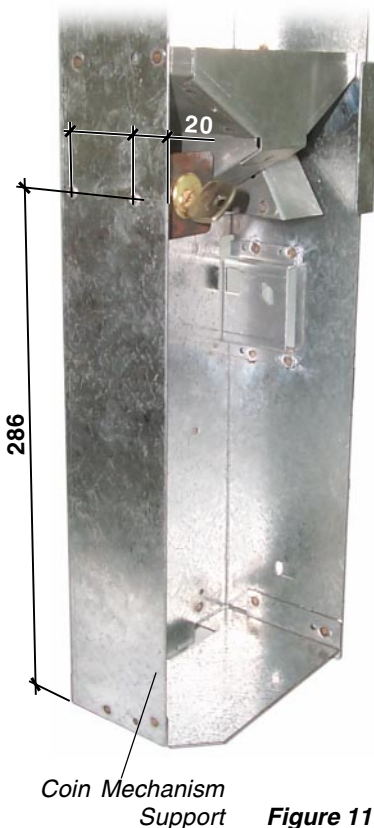

Figure 11
- 3.- Rivet the bin lock support with the lock already installed into the two pre-existing holes in the support mechanism. If the holes are not present, two new $\varnothing 4$ holes must be drilled where indicated by **figure 11**.